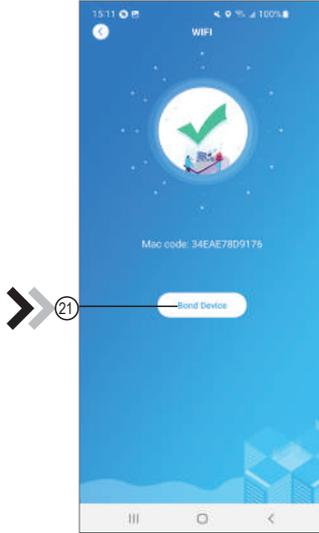

Fig.28 Bond device interface
7. Click ① to bond device (Fig. 28);